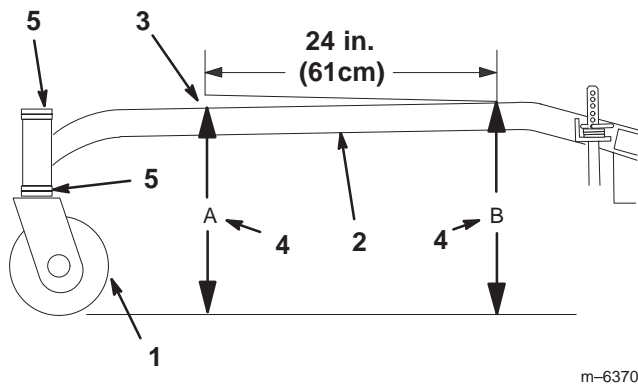

Figure 54
The carrier frame must have a pitch of a 1/4 inch (6 mm) over the length of 24 inches (61 cm) on the carrier frame (Fig. 54).
- Measure out 24 inches (61cm) on the carrier frame (Fig. 54).
- Measure carrier frame height at location **A** (Fig. 54).
- Measure carrier frame height at location **B** (Fig. 54).
- The height at location **A** must be a 1/4–3/8 inch (6 mm –10 mm) lower than location **B** (Fig. 54).
- If the carrier frame is not correct, move caster spacers to make it a 1/4–3/8 inch (6 –10 mm) pitch (Fig. 54). Move spacers from top or bottom to make the correct pitch.